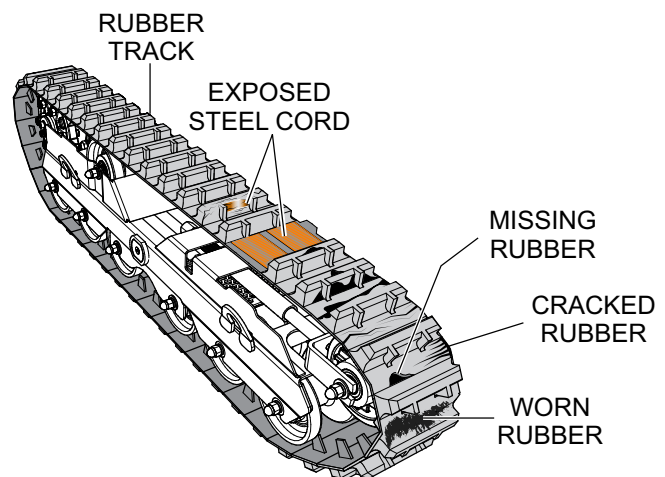

Figure 9. Rubber Track Inspection
1. **ALWAYS** check the rubber tracks (Figure 9) for cuts and abrasions.